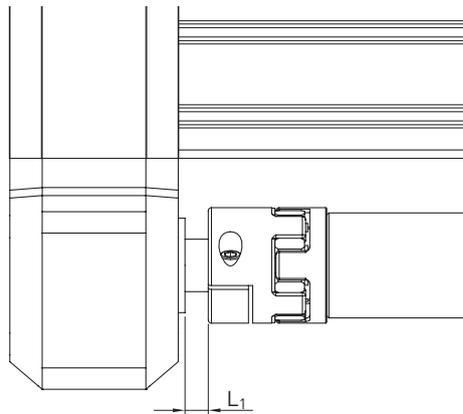

Fig. 6.5 Measurement L_1 on the synchronous shaft
- ▶ Make sure to observe the measurement L_1 according to Table 6.3 (see Fig. 6.5).